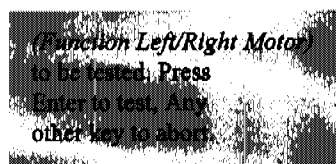

Figure 4.39. Function message
2. Select the desired menu line with [2 ▼] or [8 ▲]. Press [Enter]. Once selected, the screen displays the function (Left/Right Motor, etc.). If the function is for a motor or the gripper solenoid, the Function message displays (Figure 4.39).